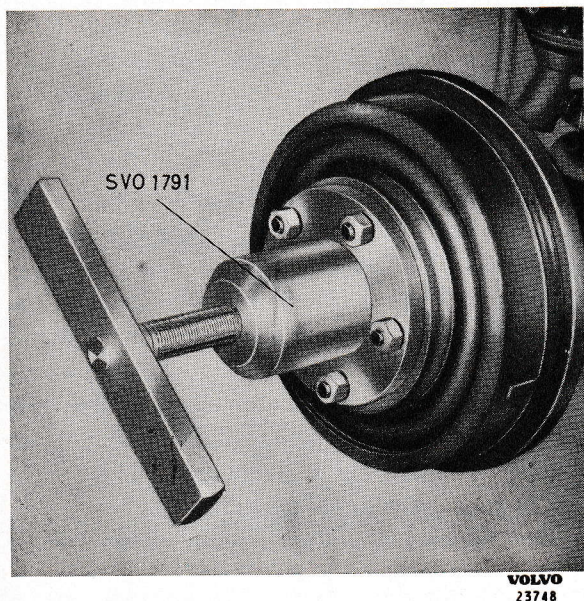
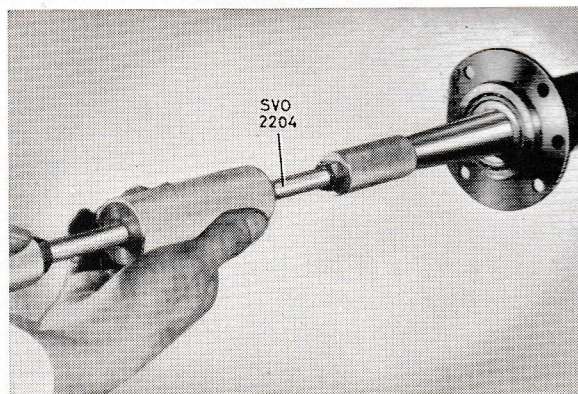

Fig. 1. Removing a wheel hub.
Fig. 2. Removing the axle shaft.
1. Remove the wheel and pull off the wheel hub as shown in Fig. 1. Use puller SVO 1791. Remove the brake backing plate after having placed a wooden block under the brake pedal and loosened the brake line from the backing plate.
2. Pull out the axle shaft, Fig. 2. Use puller SVO 2204. (SVO 1804 can be used on Model I rear axles.)
1. Remove the wheel and pull off the hub as shown in Fig. 1. Use puller SVO 1791. Remove the brake backing plate after having placed a wooden block under the brake pedal and loosen the brake line from the backing plate.
2. Pull out the axle shaft as shown in Fig. 2. Use tool SVO 2204. (SVO 1804 can be used on Model I rear axles.) Check and replace the seal ring if necessary.
2. Lift off the rear wheels and remove the rear axle nuts (2).
3. Pull off the rear wheel hubs (6) together with the brake drums. Use puller SVO 1791, Fig. 1. (The handbrake should be released and the brake shoes backed up if necessary).
5. Remove the four bolts (46) for the brake backing plates and remove same. Make sure that the shims (47) are not lost or damaged.
6. Pull out the axle shafts (11) with tool SVO 2204 (SVO 1804 can be used) and lift them clear, Fig. 2.
7. Disconnect the propeller shaft from the pinion flange (21).
8. Loosen the bolts (13) retaining the rear axle carrier (14) and lift this off.